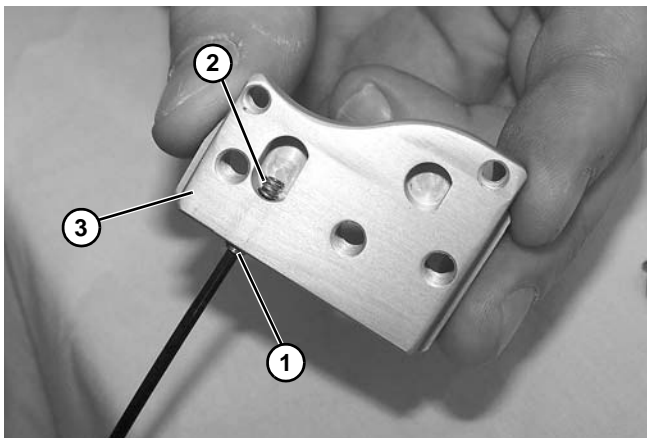

Figure 42
8. Remove set screw (Figure 42, item 1) and compression spring (Figure 42, item 2) from roller mounting block (Figure 42, item 3).